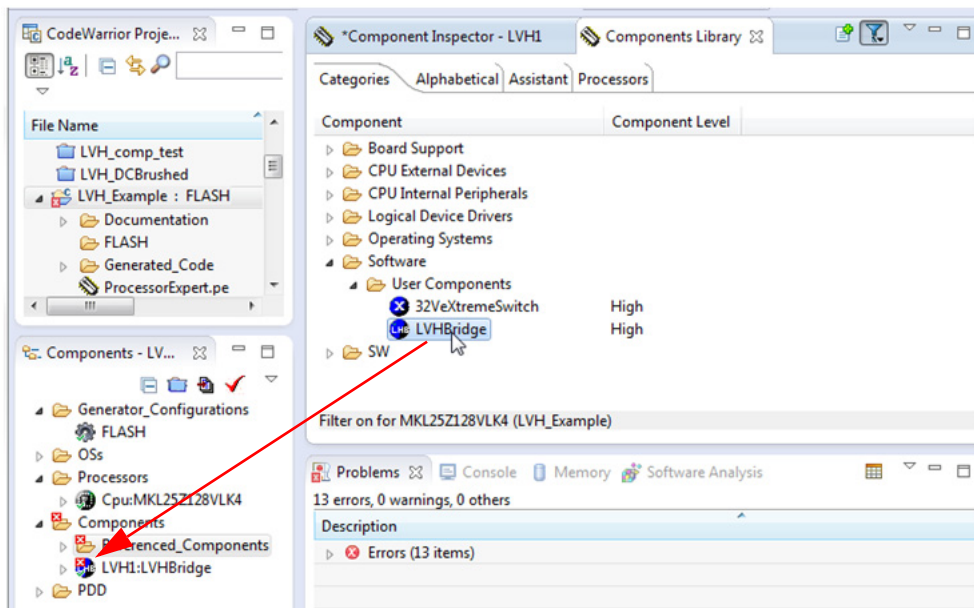

Figure 12. Add the LVHBridge component to the project
1. Find LVHBridge in the Components Library and add it into your project (see Figure 12).